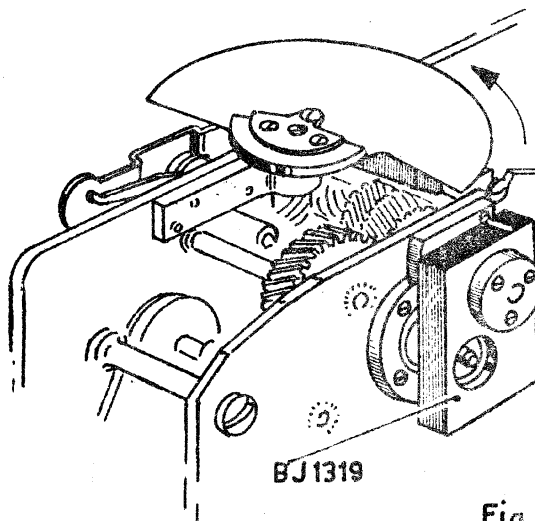

Fig.3
To align the claw shaft etc., position the mechanism with tool BJ 1319 (fig.3)
4. Shutter (fig.3)